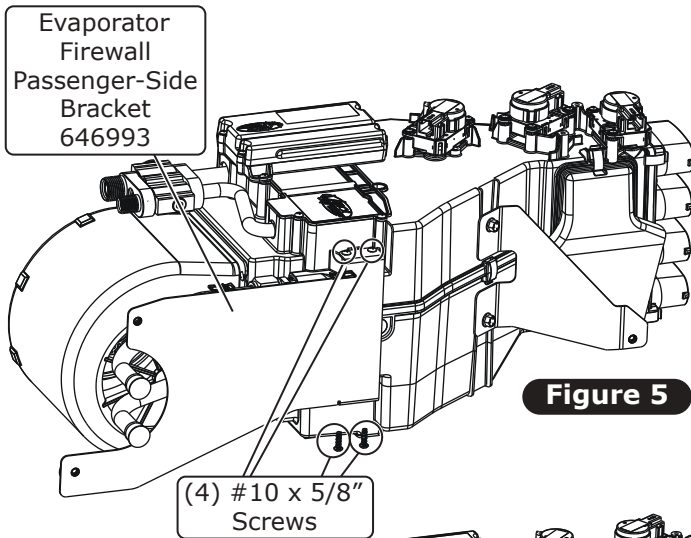

Figure 5
7. Install the passenger-side bracket using (4) #10 x 5/8" screws (See Figure 5, below).